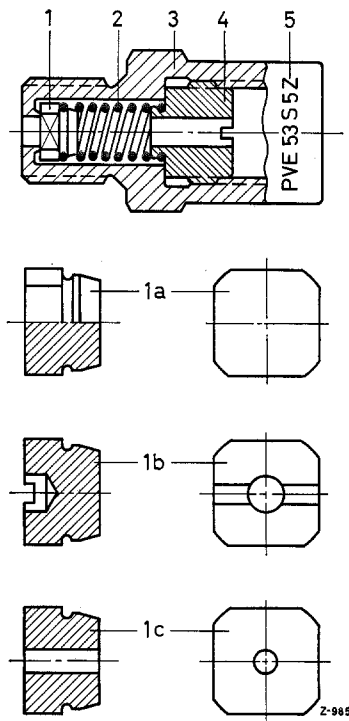

Figure 09-3/3
1. If a by-pass valve with a disc valve with groove (see Figure 09-3/3, Pos. 1b) is not available for subsequent installation, the disc valve (1a) installed in the by-pass valve can be furnished with a hole 1.2 to 1.3 mm in diameter. This will have the same effect as the presently valid serially installed disc valve with groove.
2. The adapter A 8 DIN 7523-6 S, which fixes the fuel feed hose from the fuel feed pump to the fuel filter, must be closed with a disc 9 mm in diameter which is attached by hard soldering. A hole 3 mm in diameter is drilled into the center of this disc (see Figure 09-3/4, Pos. 3 and 4).